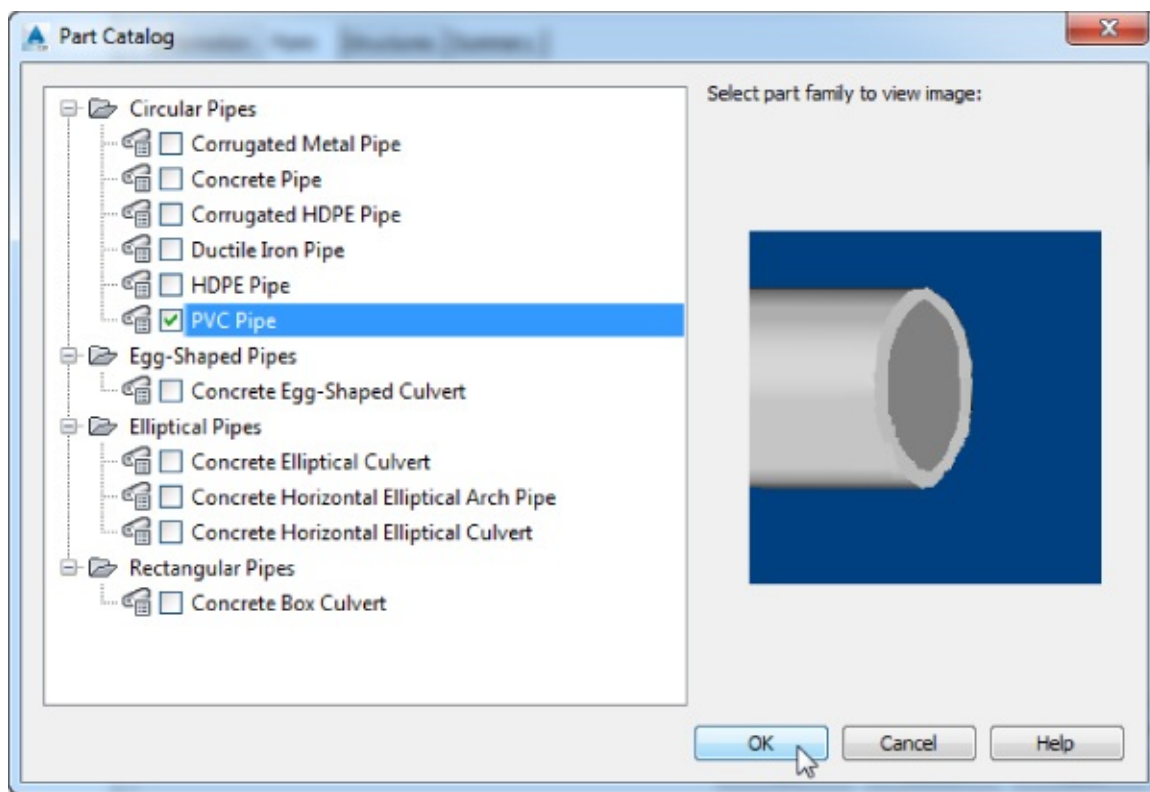

Figure 13.17 Choosing a part family to add
7. As shown in Figure 13.17, place a check mark next to PVC Pipe (PVC Pipe SI in the metric catalog) and click OK.